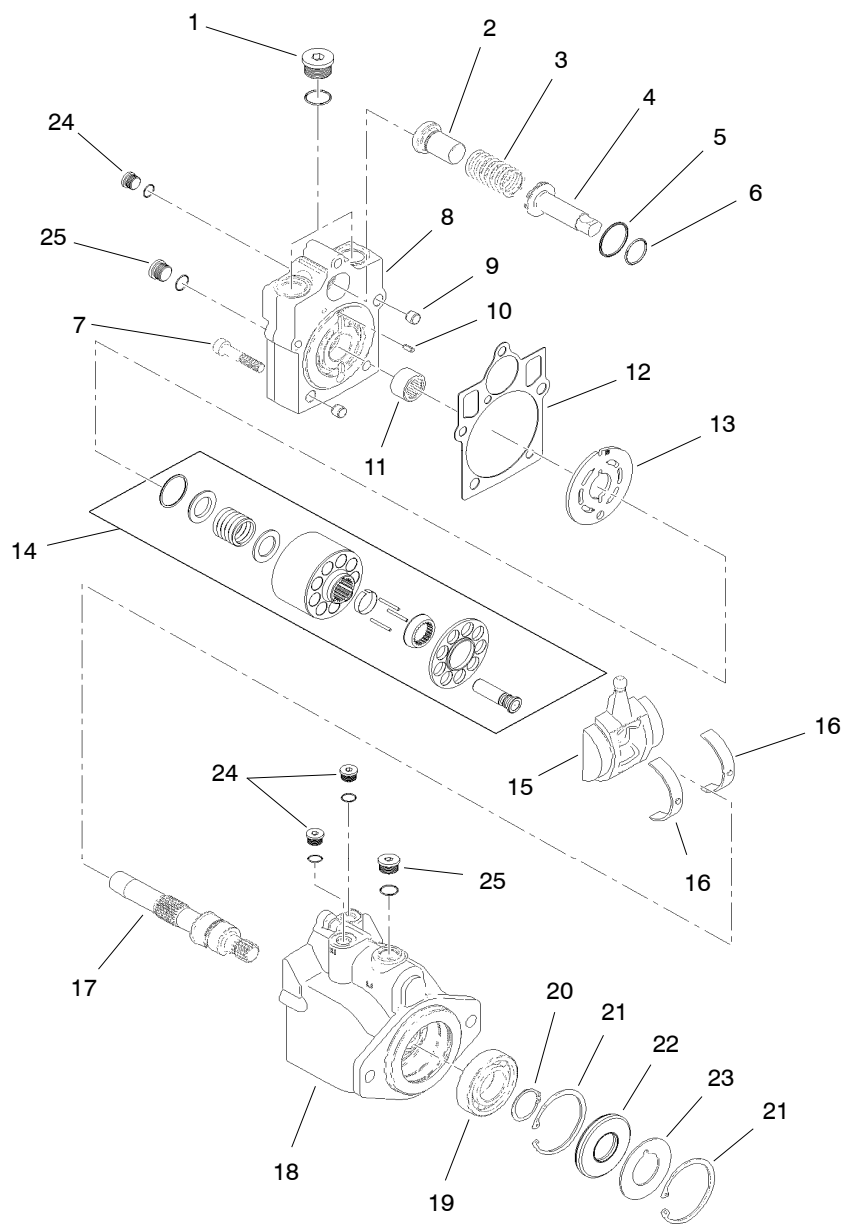
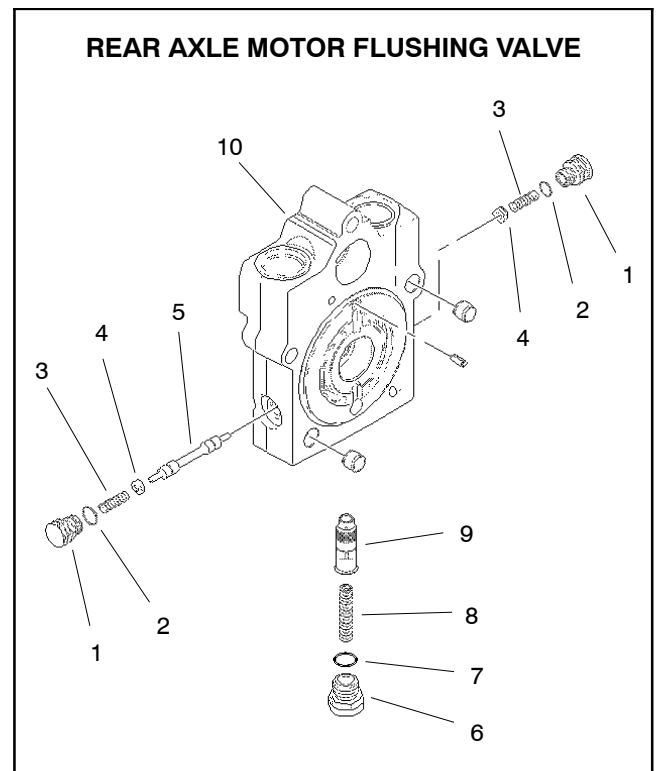

Figure 82
Figure 83
**NOTE:** The front wheel motors are identical (shown in Figure 82). The rear axle motor includes a flushing valve for cooling of the closed loop traction circuit and therefore has some differences from the front motors (Fig. 83). Service of the wheel and axle motors uses the same procedure.